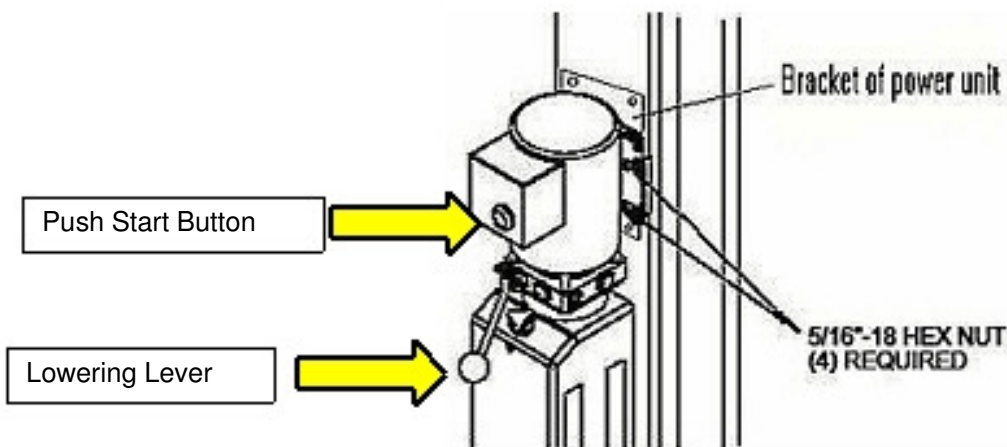

Figure 8
- 8) Use 5/16x18 bolts and washers (see fig. 8) to secure the power unit.